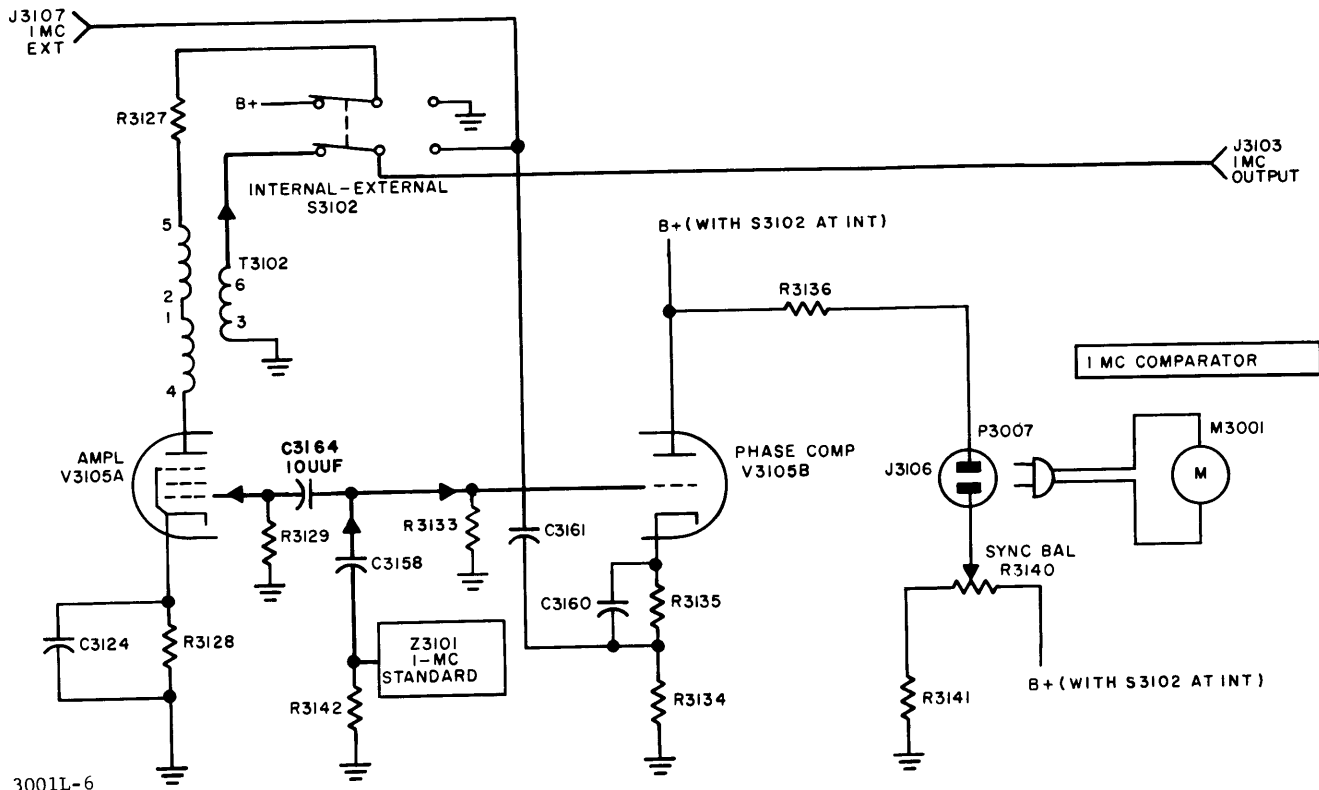

Figure 4-5. 1-Mc Frequency Standard Simplified Schematic Diagram
c. 1-MC FREQUENCY STANDARD (See figure 4-5.)